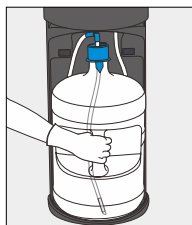

Figure 27
2. Slide empty bottle out of cabinet (Figure 27)